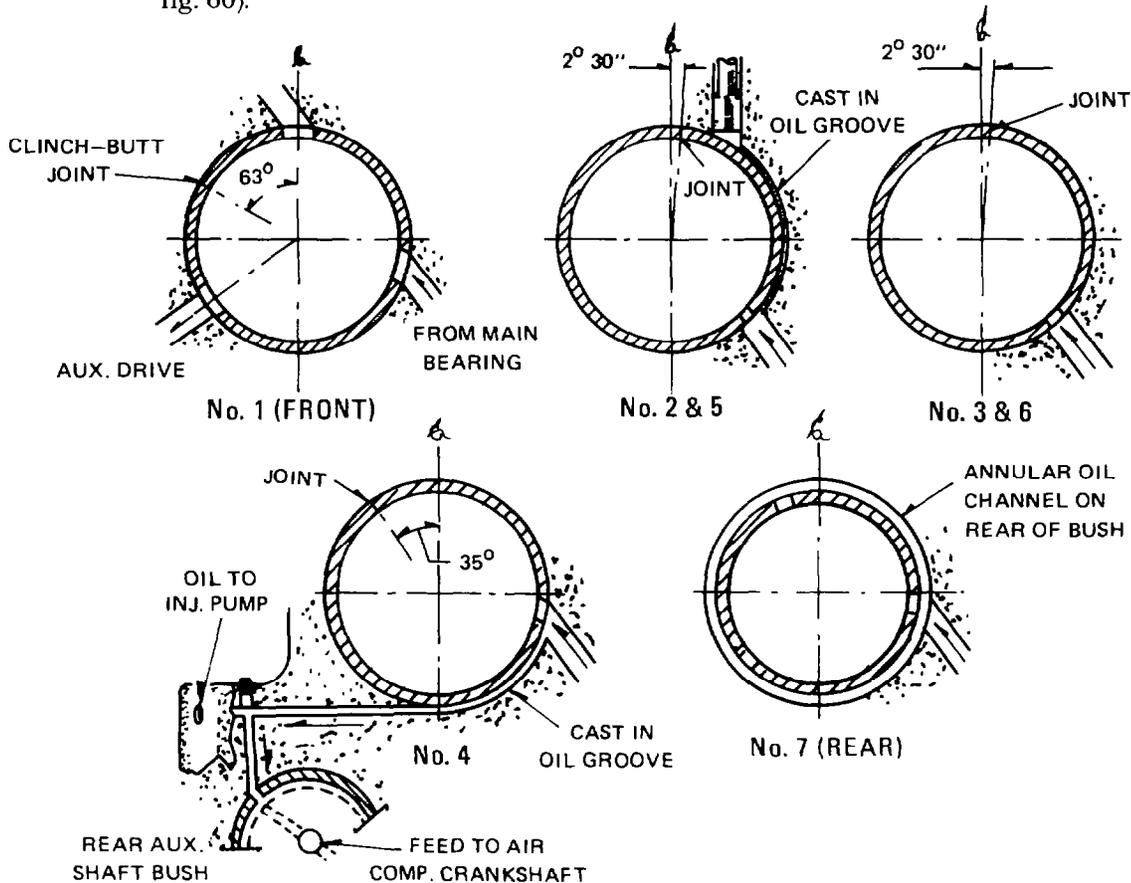

Fig. 60 — Camshaft Bearings — Oil Hole Alignment
- The oil supply holes in the block must align with the oil holes in the bearings (see fig. 60).